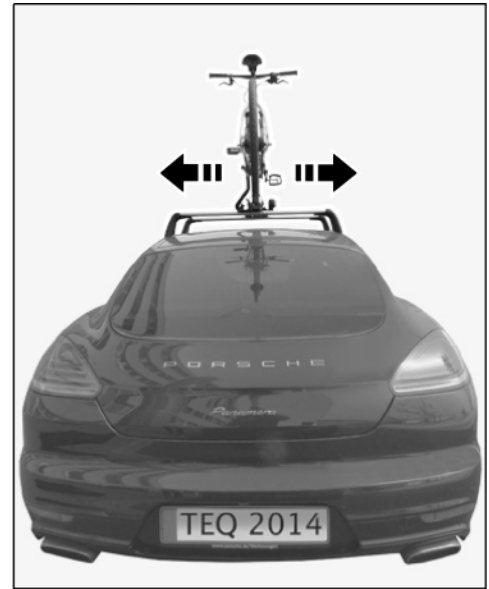

Figure 17
5.3.1 Sideways, with respect to the longitudinal axis of the vehicle (⇒ *Figure 17*):